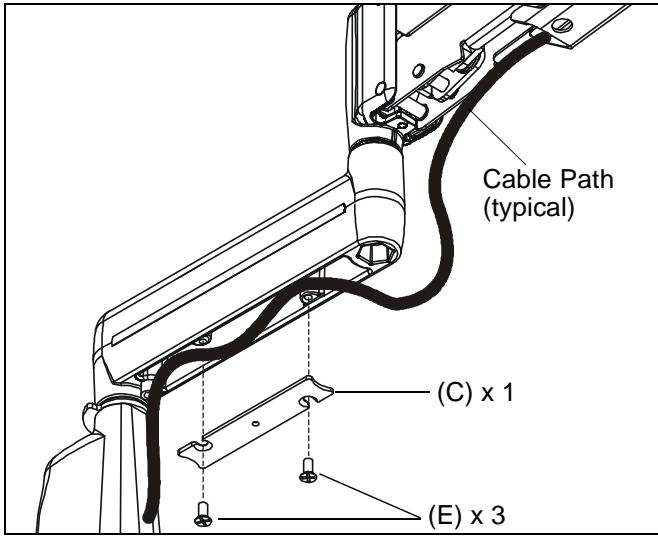

Figure 11:
**NOTE:** If necessary, cable management bracket attach screws may be tightened using hex key (M).
**CAUTION:** Ensure that adequate cable slack exists for movement of display, and that cables will not be pinched by installation of cover (C) or screws (E).
5. Carefully insert cables in cavity located in lower portion of mount arm (See Figure 11).
6. Using Phillips screwdriver, install cover (C) with two screws (E). (See Figure 11)